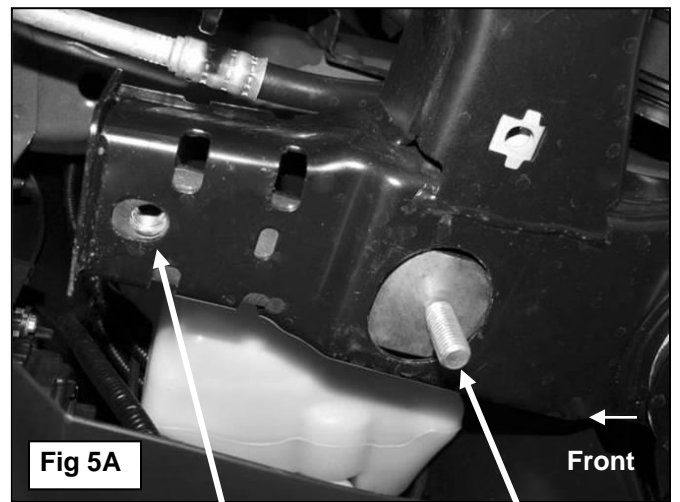

Fig 5A
- a. **Vehicles without air inlet:** Repeat **Steps 2 & 3** for passenger side Frame Mounting Bracket installation, (**Figures 5A, 5B & 5C**).